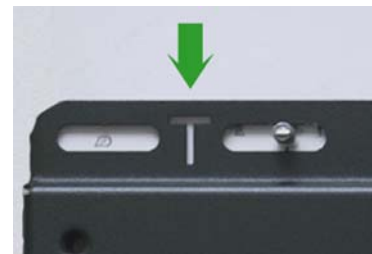

Figure 2 Make sure the 'T' is on the upper left corner
2. Use four (4) 5/16" bolts (2 on top and 2 on bottom) to secure the mounting plate to 2x4 studs. **Make sure the "T" is in the top left corner** (Figure 2). You will be very unhappy with yourself if you install it all and the "T" is in the bottom right corner. When mounting to other than a 2x4 or 2x6 wall make sure the structure is adequate to hold **250 pounds**.